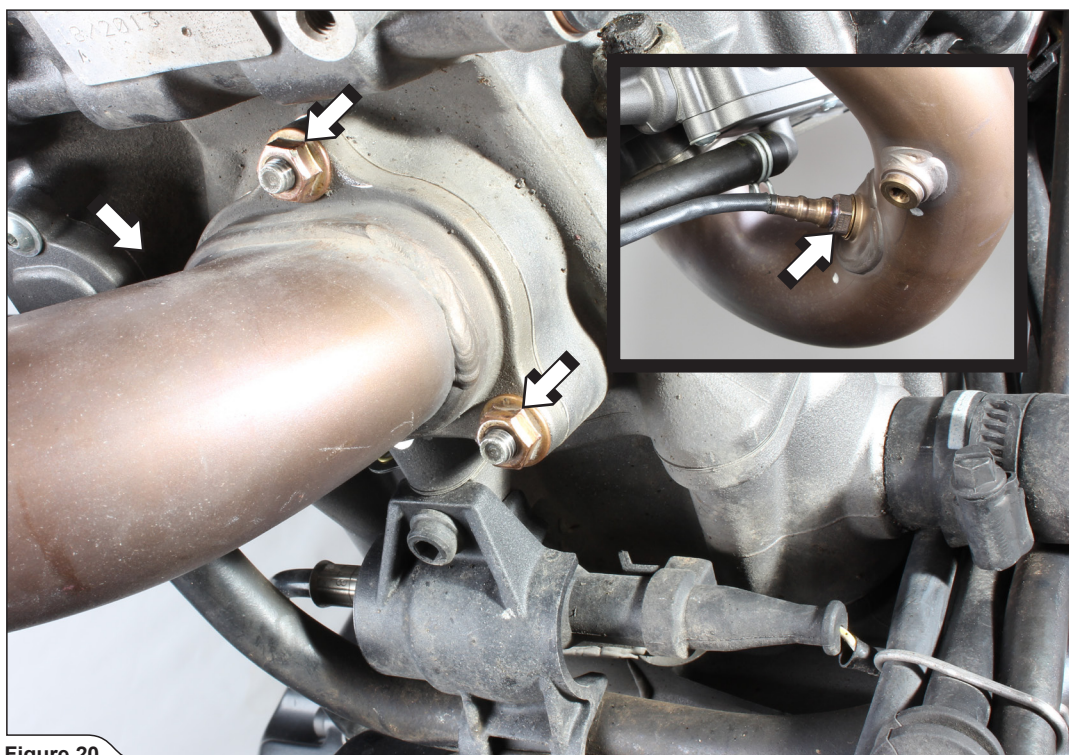

Figure 20
20. Unscrew the lambda sensor. Unscrew the three nuts and remove the front header off the motorcycle (Figure 20).